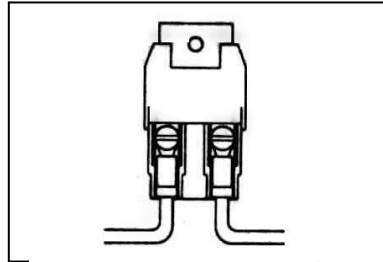
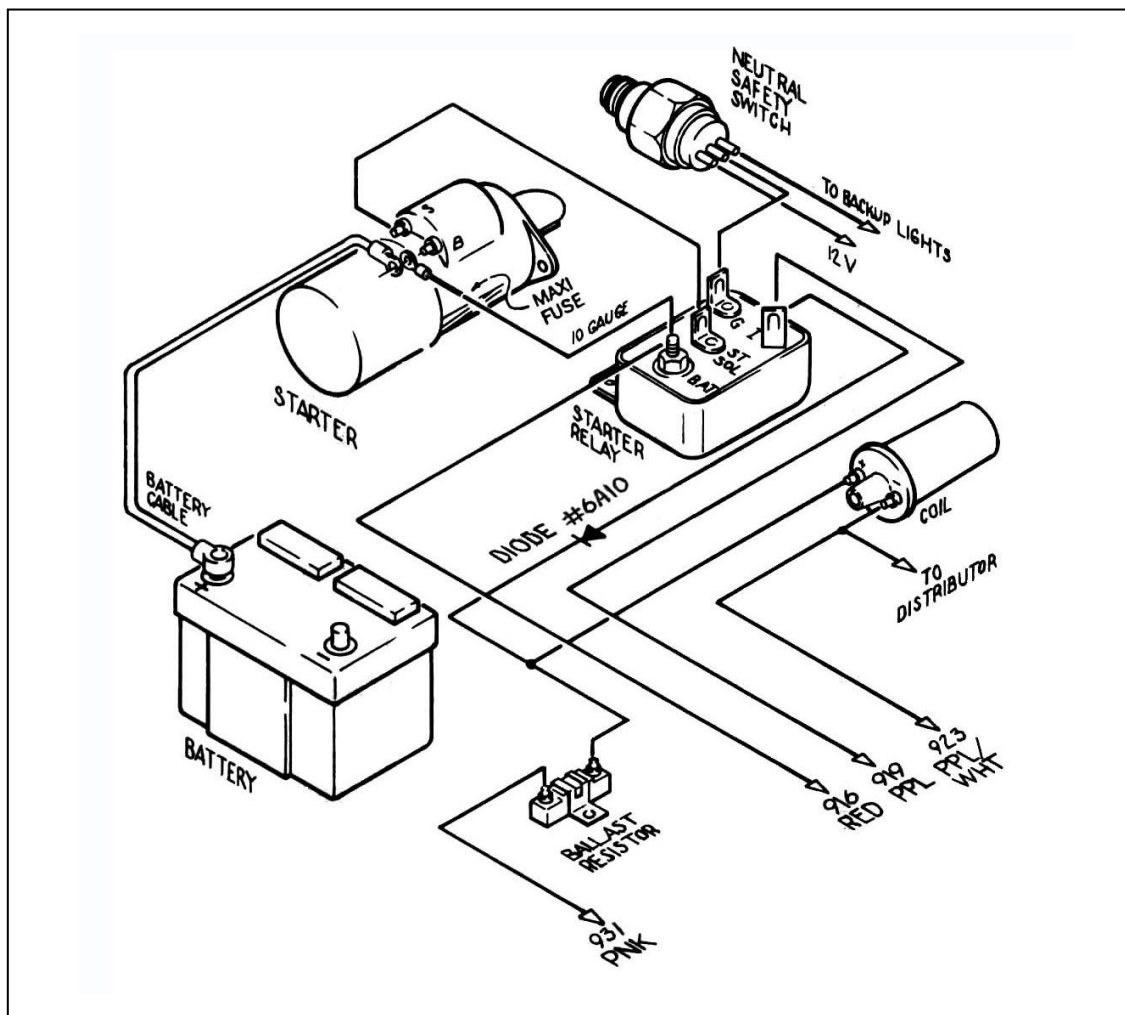

Figure 7-3 Maxi Fuse
Figure 9-2 Mopar Ignition (Start/Run) System
- 7.4.1** With crimping tool, attach Maxi Fuse (**Figure 7-3**) onto end of ENGINE SECTION (single) 10 ga. wire #916 (red) AFTER having routed wire from the Fuse Panel to the Starter Solenoid. This serves as a fuse to protect the entire harness. DO NOT OMIT IT!
- 8.2.1** With crimping tool, attach the Maxi Fuse (**Figure 7-3**) onto end of ENGINE SECTION (single) 10 ga. wire #916 (red) AFTER having routed wire (with or without ammeter) from the Fuse Panel to the Starter Relay. This serves as a fuse to protect the entire harness. **DO NOT OMIT IT!**
9.2 Mopar Ignition (Start/Run) System. See Figure 9-2
- 9.2.2** With crimping tool, attach the Maxi Fuse (**Figure 7-3**) onto remaining length of red 10-gauge wire. It serves as a fuse to protect the entire harness. **DO NOT OMIT IT!** Connect this wire from the Starter Motor Battery terminal, as shown in **Figure 9-2**. **USE ONLY 10-GAUGE WIRE.**
- 9.2.4** Connect a 14-gauge wire from the Starter Relay Ground (G) terminal to the center terminal of the transmission mounted Neutral Safety Switch. Older Mopar neutral safety switches have only one terminal. On newer switches, the two outside terminals are for backup lights. Use existing wiring to connect these two terminals as shown in **Figure 9-2**.
- 9.2.7** Connect a 14-gauge wire from the Starter Relay Ignition (I) terminal to the ignition coil side of the Ballast Resistor. This wire serves as a ballast resistor BYPASS during engine starting. You must add a diode (8 amp min., 100 PIV) to this wire as shown in **Figure 9-2**. If you are not using a ballast resistor, do not connect this wire.